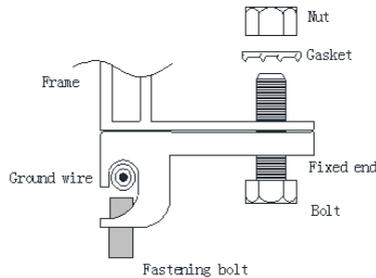

Figure 11: Grounding the aluminum frame with a copper wire
- Use the marked 5.5 mm grounding holes to ground the anodized aluminum frame. Use an M5 nut, an M5 gasket, and an M5 bolt, fastening bolt and a ground wire. All nuts, bolts, and gasket should be made of stainless steel. See *Figure 11*.